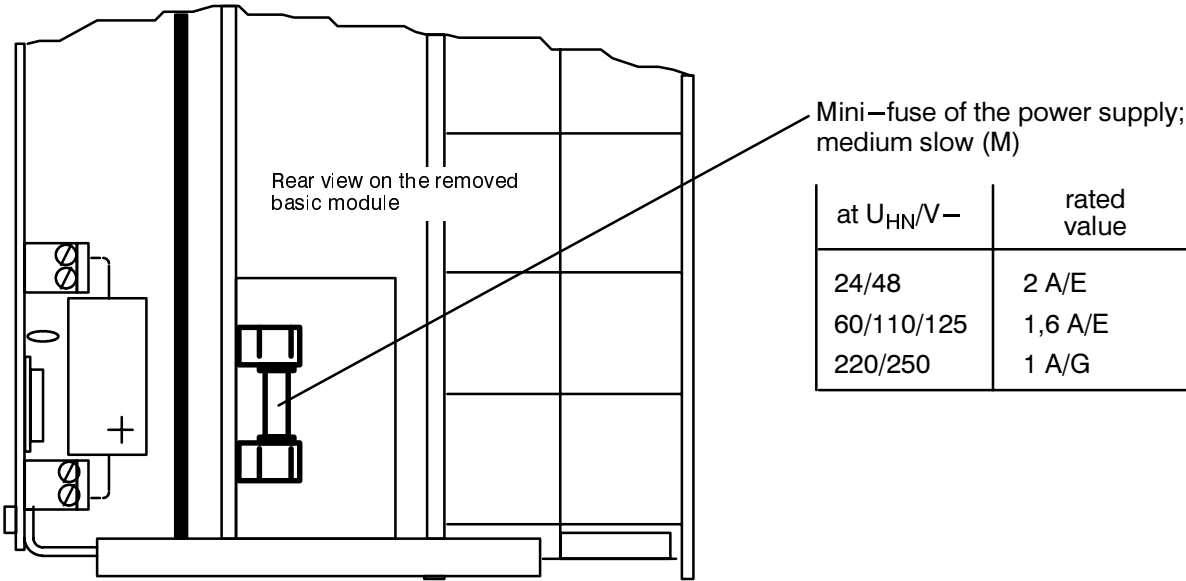

Figure 7.1 Mini–fuse of the power supply
- Has the mini-fuse in the power supply section blown (see Figure 7.1)? If appropriate, replace the fuse according to Section 7.2.1.
- Select a replacement fuse 5 × 20 mm. Ensure that the rated value, time lag (medium slow) and code letters are correct. (Figure 7.1).
- Remove blown fuse from the holder (Figure 7.1).
- Fit new fuse into the holder (Figure 7.1).